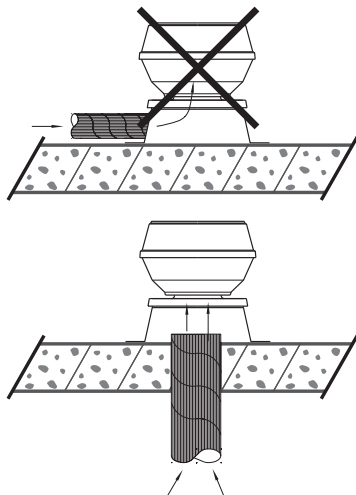

Figure 3
- The situation must be avoided in which the air flow takes place asymmetrically. (See figure 3).